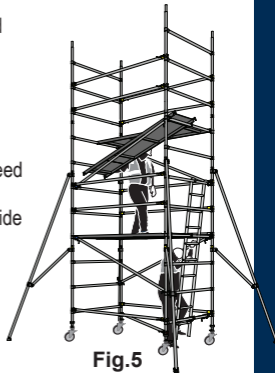

Fig.5
12. Remove the temporary platform and place it above to complete the working platform. The working platform should now include the ladder access platform and the access ladder-See Fig. 5.
15. Repeat the above process installing working platforms with ladders at nominally 2m intervals – see Fig. 5.